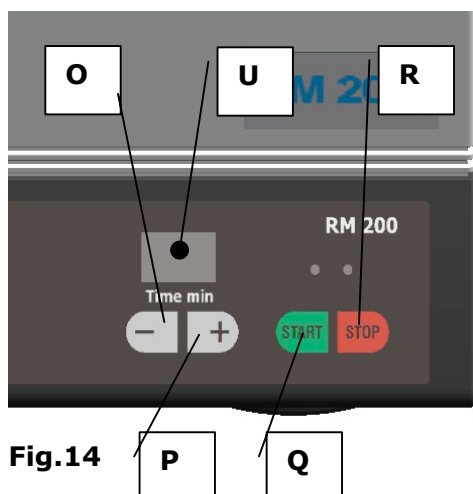

Fig.14
- Set the required milling time with the + / - buttons **O** and **P** **Fig.14**
- Press the stop button **R** . **Fig.14**
Precrushing: Fig.14
Fine milling: Fig.14